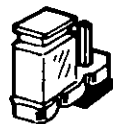

FIGURE 4-49 SSPU-Z1 INSTALLATION
3. Adjust strapping and potentiometer if necessary as follows, referring to Figure 4-49: